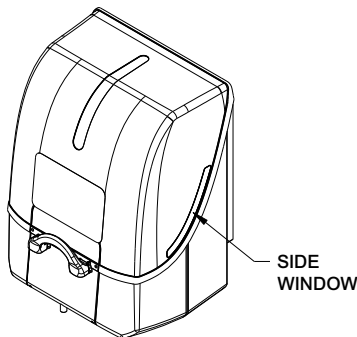

Figure 14
1. Visually inspect Cartridge status through Side Windows on Lid Assembly (Ref Figure 14).